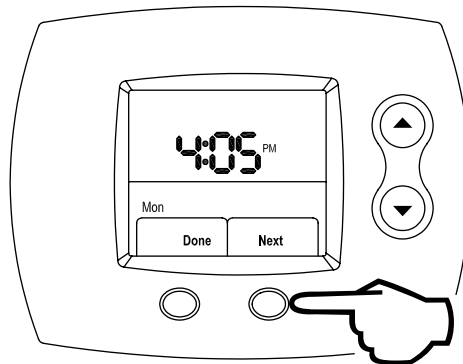

Figure 115
Step 7: Press the **RIGHT** (Next) button to proceed, which is shown in Figure 115.